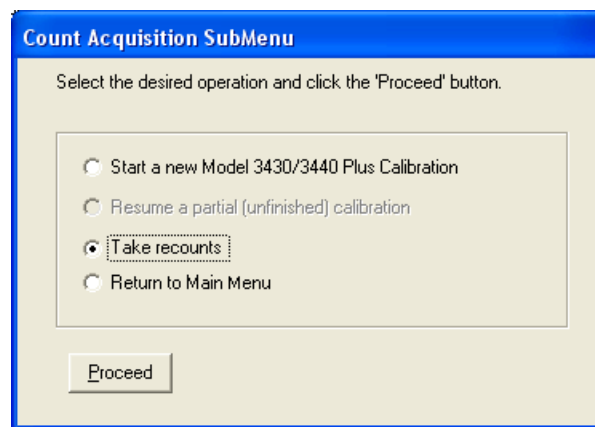

Figure 3–17. Count Acquisition Submenu, Take Recounts Option Selected
2. The **Count Acquisition SubMenu** (Submenu 1) is displayed, as shown in Figure 3–17. The options that are available in the submenu depend upon the tasks that have been most recently undertaken. As shown in Figure 3–17, select the third option, **Take recounts**, and click the **<Proceed>** button.
4. Once **<Yes>** is clicked on the preceding message box, the **Recount Selection Form** (see Figure 3–18) is displayed. The form contains an option button for each recount that can be made with this particular calibration. To take a recount, click the option button beside the recount desired, then click the **<Proceed>** button. If you do not wish to take a recounts, then click the default option button, **No Recounts Required**, and then click the **<Proceed>** button.
5. The **Prepare gauge for count** prompt, shown in Figure 3–9 on page 3–7, is displayed. The text of the prompt will reflect the recount that was selected.